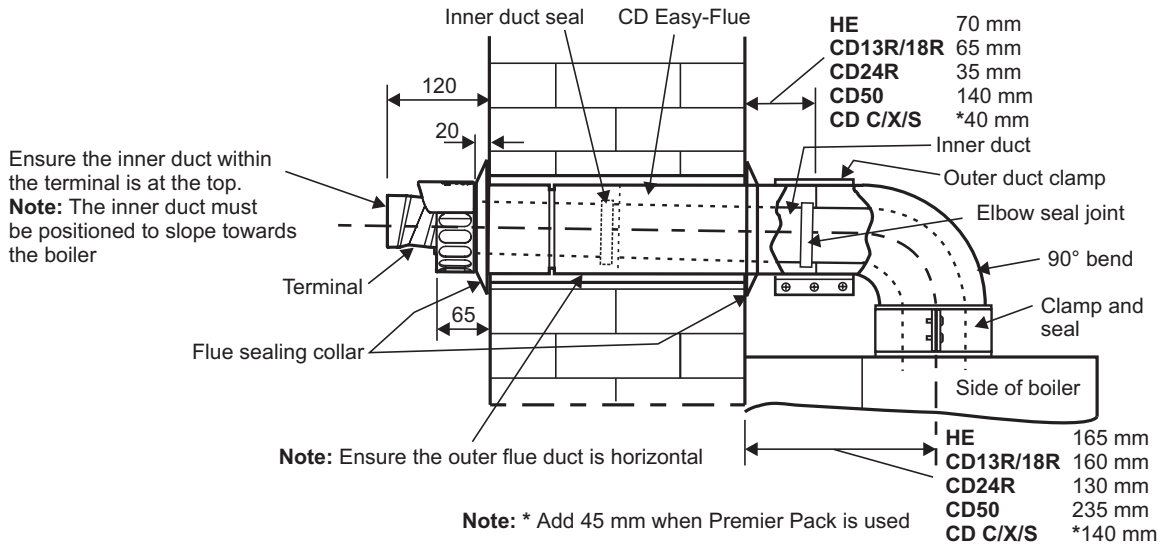

Fig. 5 - Rear flue
- Note:** Check the flue terminal protrudes 120 mm out of the wall and the inner duct of the terminal is positioned correctly (see Fig. 5).